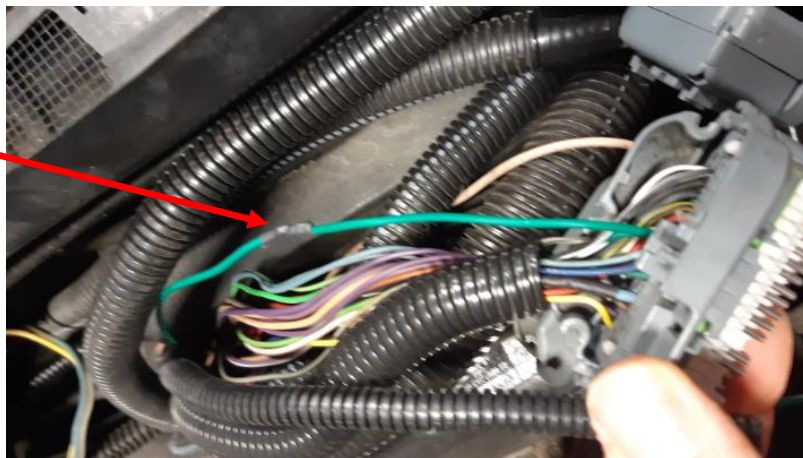

Figure 8
- 12) The long green wire, which was routed from the new ECT sensor connector to the PCM connector location, can now be trimmed to length and connected to the short green wire that was just inserted at Pin #8 of Red Connector. Solder and shrink wrap. See Figure 8.